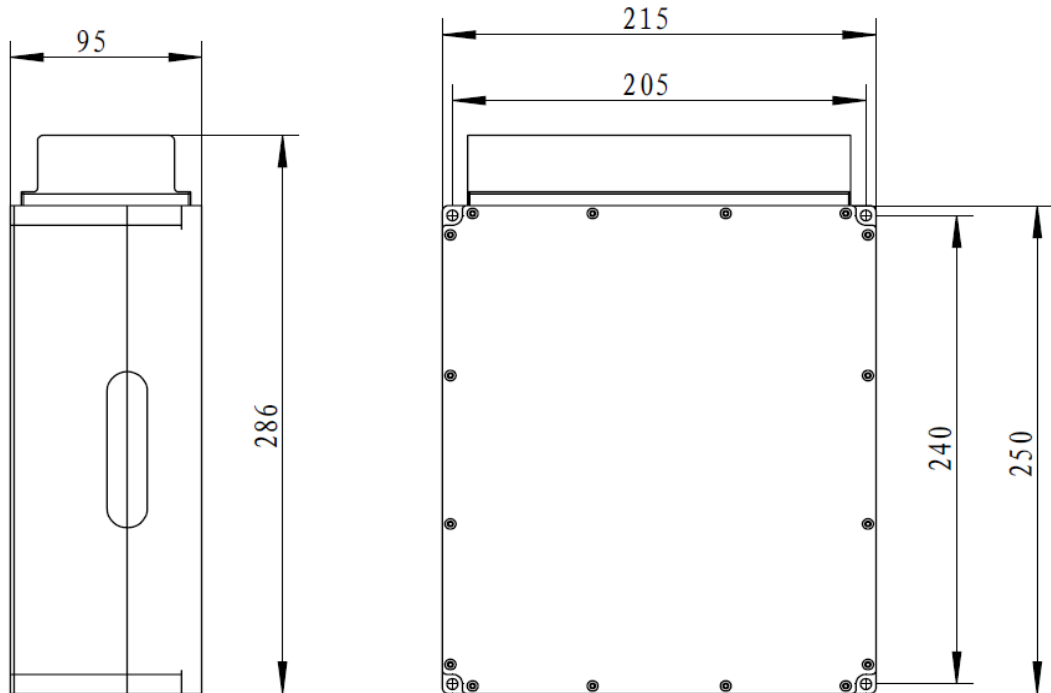

Figure 1. Dimension drawing of laser module (Unit: mm).
a) Fiber Laser module dimensions (As shown in Fig. 1).